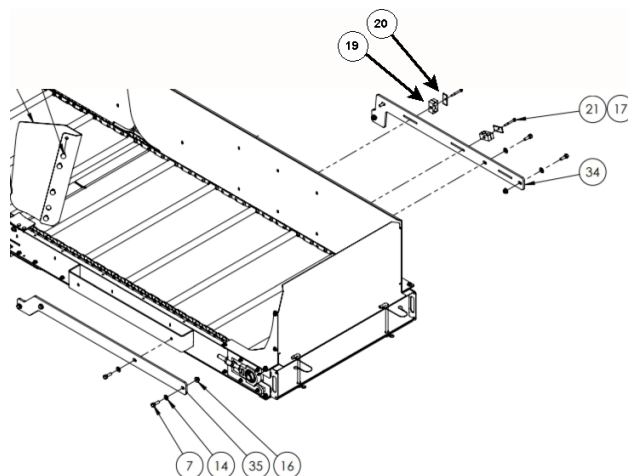

Figure 1: Remove the support brackets
2. Remove the front conveyor support bracket (34), hydraulic hose clamps (19,20) and the rear conveyor support bracket (35) from the new hydraulic folding conveyor assembly, see **Figure 1**.